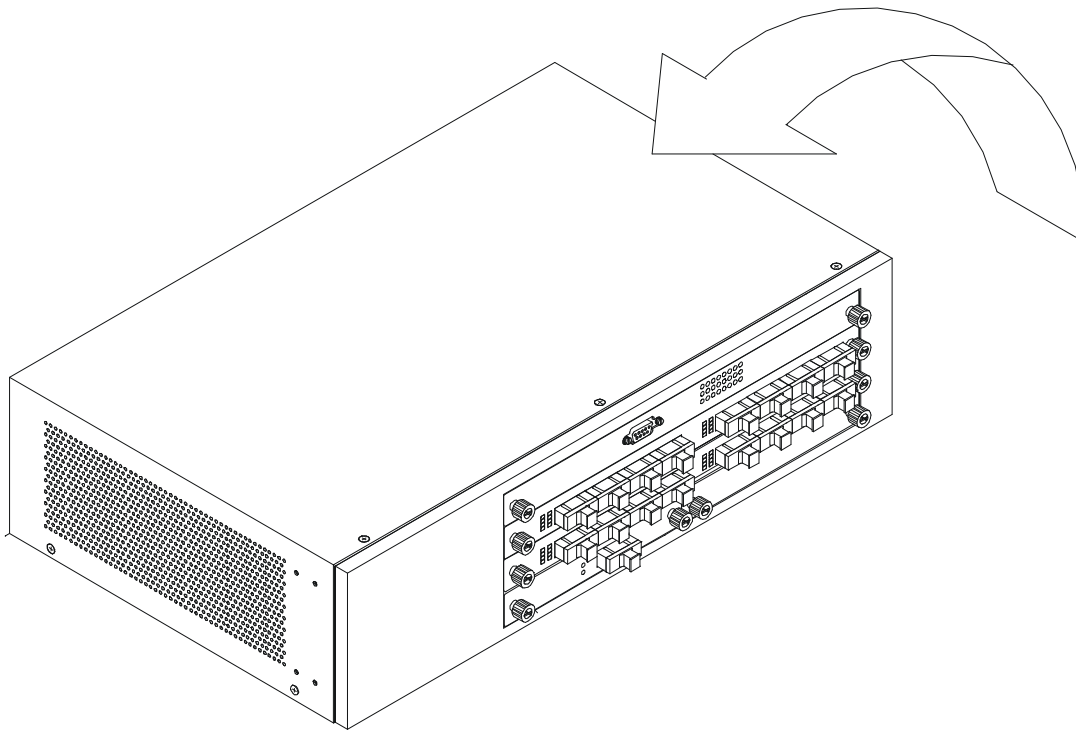
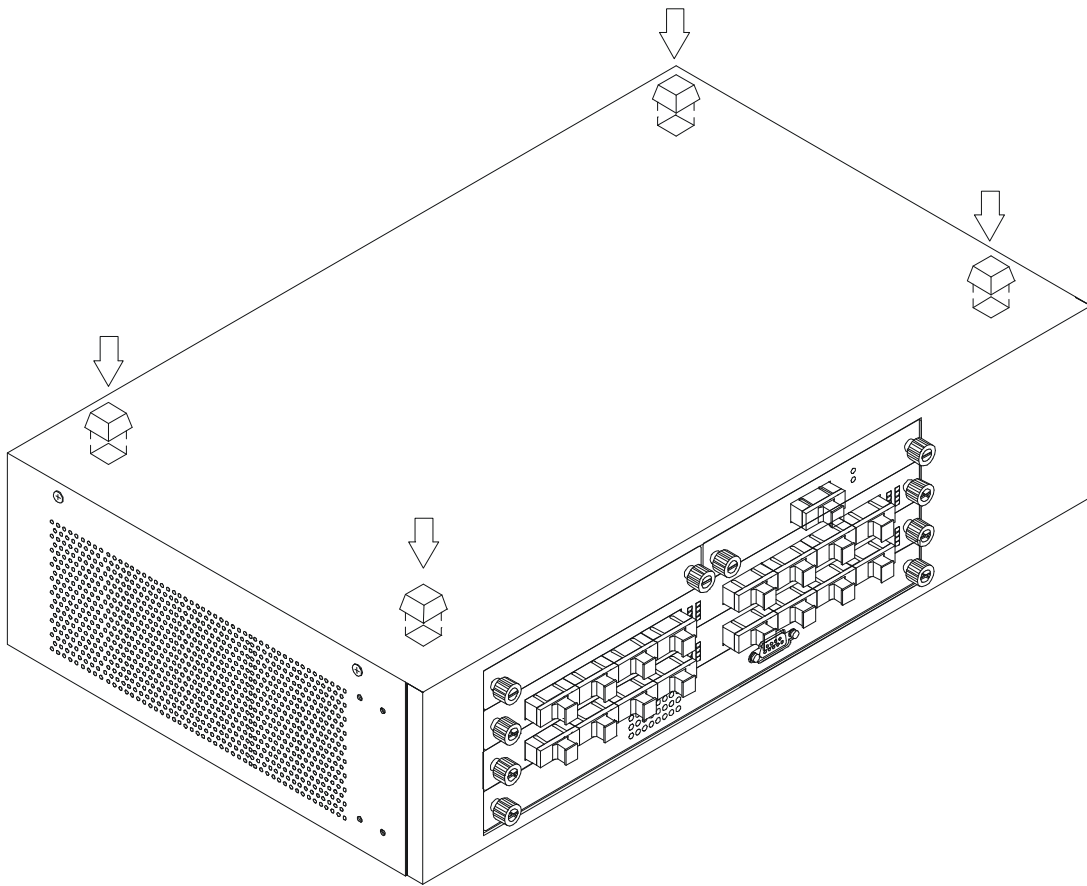

Figure 5: Install Feet on Bottom
Figure 6: Attach Feet
1. Place the four rubber feet at the corners of the DES-5016. See Figure 5 and Figure 6.